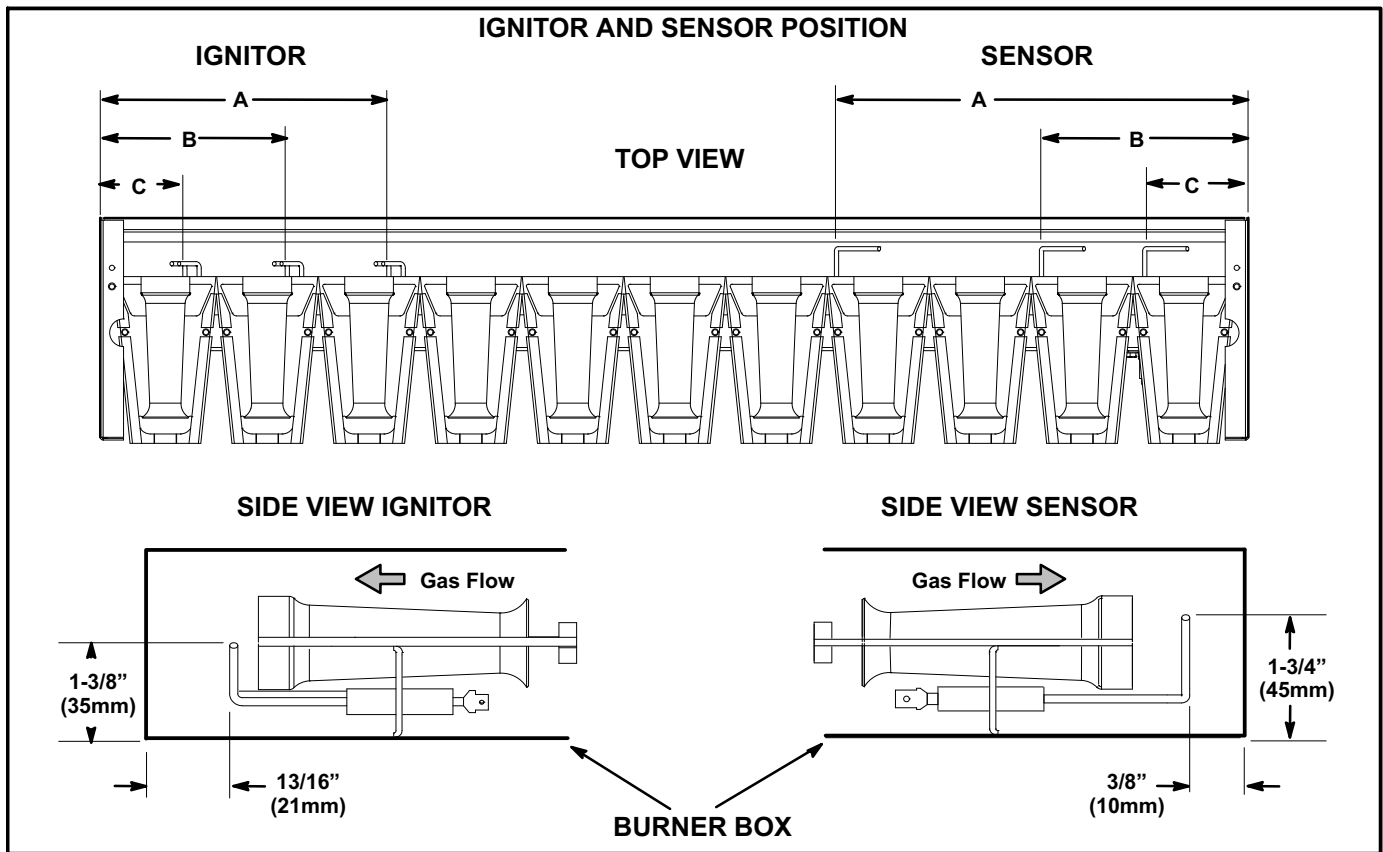

FIGURE 36
- 5- Check the alignment of the ignitor and the sensor as shown in figure 36 and table 21.